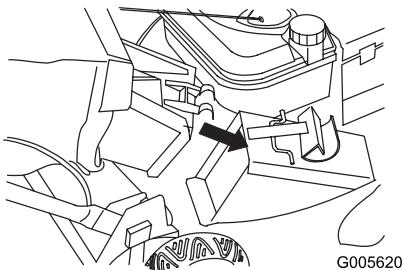

Figure 24
- Fit the bag door opening over the discharge tunnel opening (Figure 24).